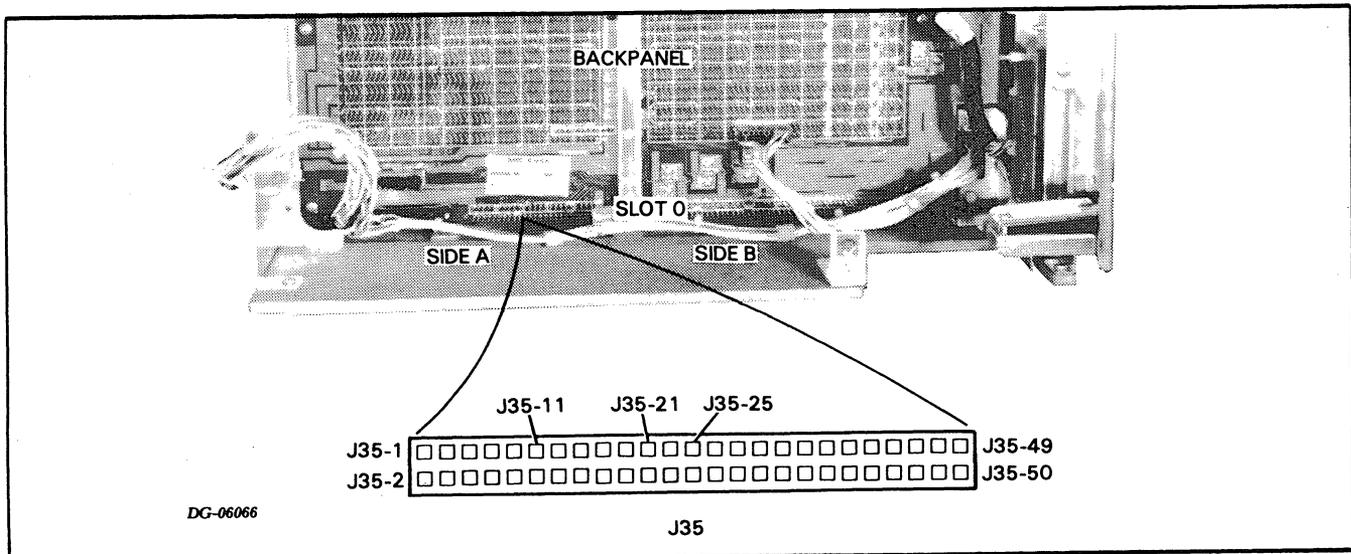

Figure 6.7 JACK J35
5. Short **MEMD** at J35-21 to **GND** at J35-1 (see Figure 6.7).
- Check the -11V voltage at J35-25 (see Figure 6.7)